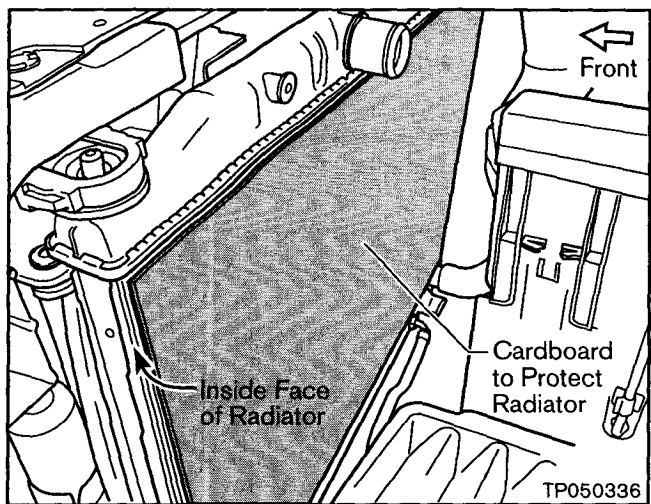

Figure 18
16. Place a piece of cardboard against the inside face of the Radiator to protect it when removing the Alternator (see Figure 18).